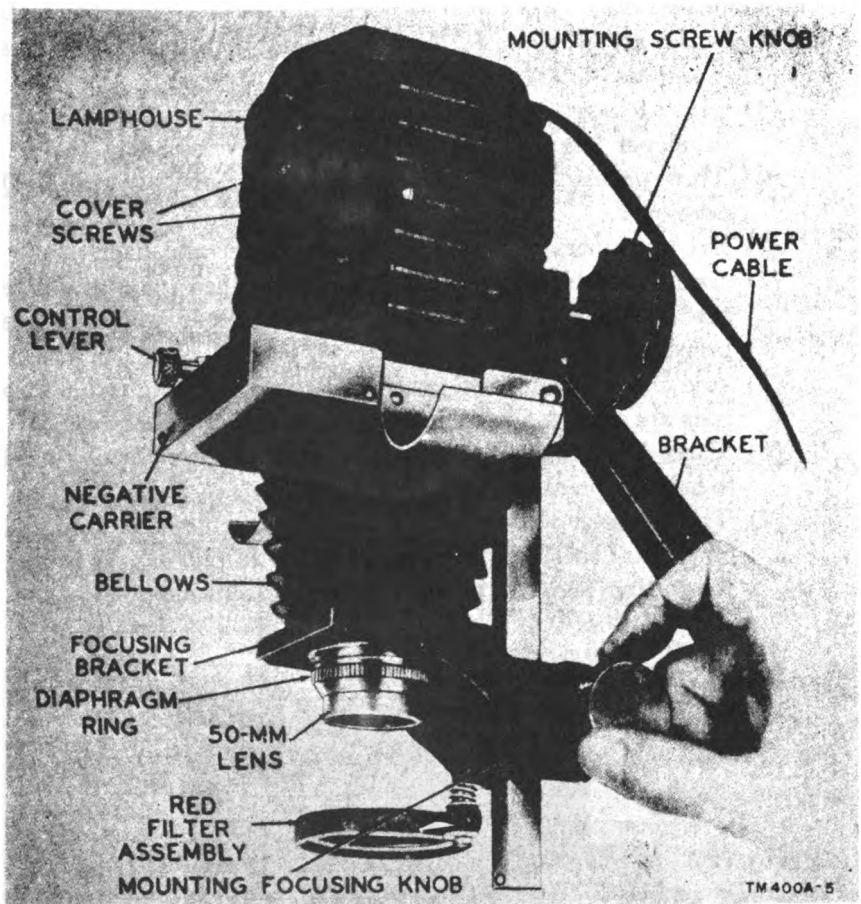

Figure 5. Photographic Projection Printer EN-11 (1).
i. Photographic Projection Printer EN-11 (1) (fig. 5). The printer is a table-size, projection-type printer that makes enlargements of 35-mm photographic negatives. It is mounted onto the laminated plywood baseboard bottom of the carrying case. It is equipped with an $f/4.5$, 50-mm focal length, coated enlarging lens with an iris diaphragm and a red safety filter. Magnifications from 2.5 to 10 diameters may be obtained when the baseboard is used. Illumination is provided by a bayonet-type, 115- to 125-volt, 50-watt, photo-enlarging lamp which is mounted behind a pair of condenser lenses and a heat-resisting glass. The printer is operated from a 105- to 120-volt alternating current (ac) or direct current (dc) power source.
- (4) *Bellows* (fig. 5). The bellows, mounted between the bellow top plate and the focusing bracket, is made of rubberized black leatherette. The top and bottom ends are folded over a flat plate for lightproof mounting.
- (5) *Bracket* (fig. 5). The bracket is constructed of black, wrinkle-finish, cast-aluminum and is mounted on the printer column. It may be locked at the desired height with the mounting focusing knob. The bracket top includes a mounting screw knob for mounting the printer lamphouse or Camera PH-324-A for copy work.
- (6) *Power cable* (figs. 5 and 28). The power cable is a two-conductor, copper-wire, rubber-coated cord. One end of the cable is connected to the lampholder in the lamphouse, and the other end terminates in a standard male plug.